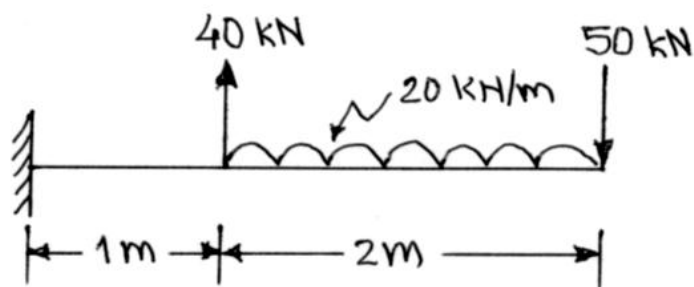

Fig. 3 Q. 3(b)
- (b) Draw shear force and bending moment diagram for the beam shown in Fig.3 **07**